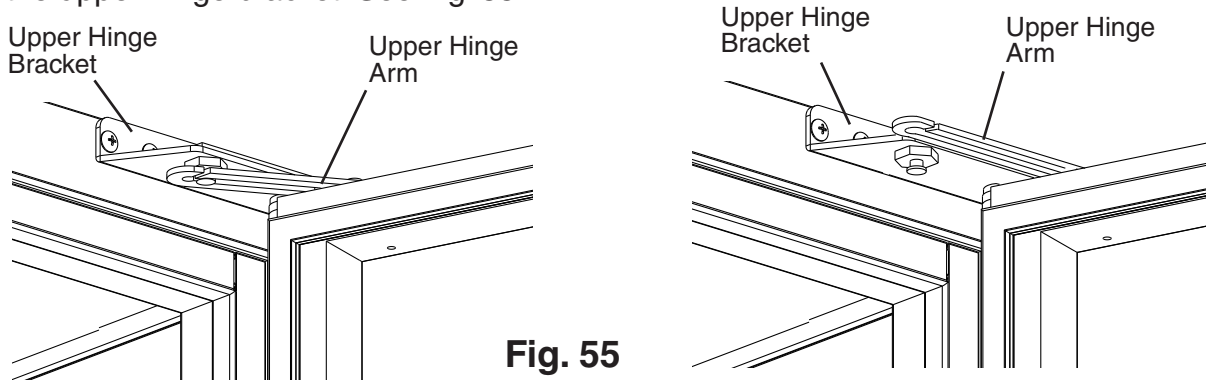

Fig. 55
- 7) Open the upper door. Using a flat head screwdriver, unhinge the upper hinge arm from the upper hinge bracket. See Fig. 55.